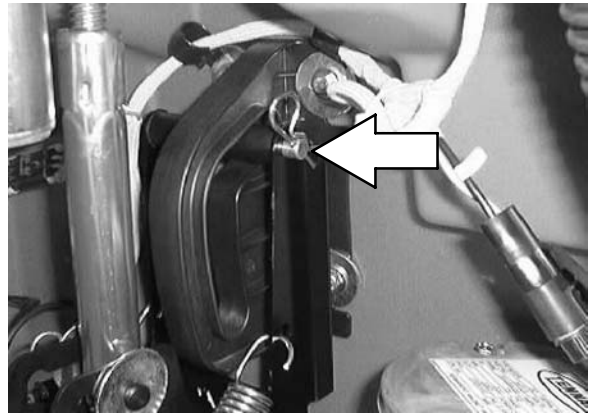

FIG. 7
2. Connect the scrub head to the guide with the larger clevis pin (22) and roller (21). Refer to FIG. 7.